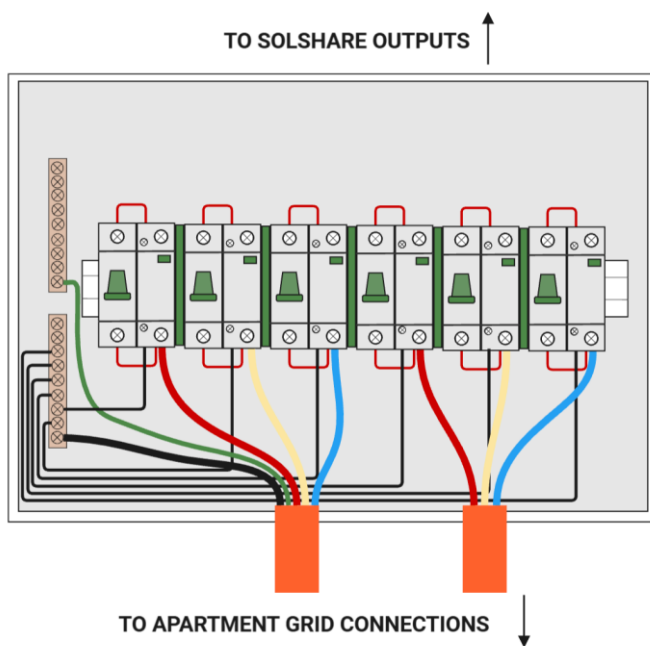

Figure 4. Isolation Box Internal wiring
5. Wire the contactors and connect one for each SolShare output, as shown in Figure 4.
7. If required, install the 9mm Din-rail spacers in between contactors to aid heat dissipation, as shown in Figure 4.